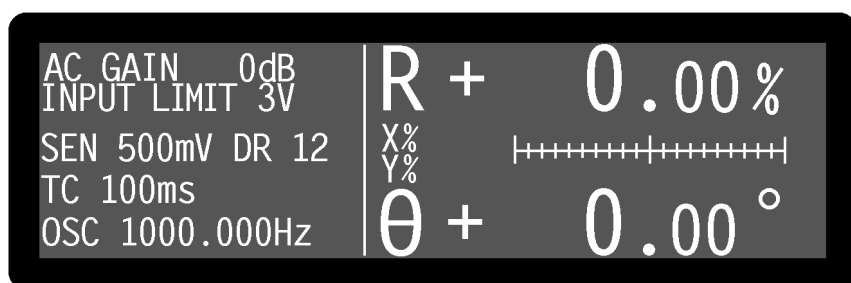

Figure 2-5, Main Display
- 7) Press one of the keys adjacent to the Auto Default menu item. This will set all of the instrument's controls and the display to a defined state. The display will revert to the Main Display, as shown below in figure 2-5, with the right-hand side showing the vector magnitude, R , and the phase angle, θ , of the measured signal in digital form, with two bar-graphs showing the X channel output and Y channel output as a percentage of the full-scale sensitivity. The left-hand side shows four instrument controls, these being the AC Gain in decibels, full-scale sensitivity (SEN), output time constant (TC) and internal oscillator frequency (OSC). The resulting dynamic reserve (DR), in decibels, is also shown.